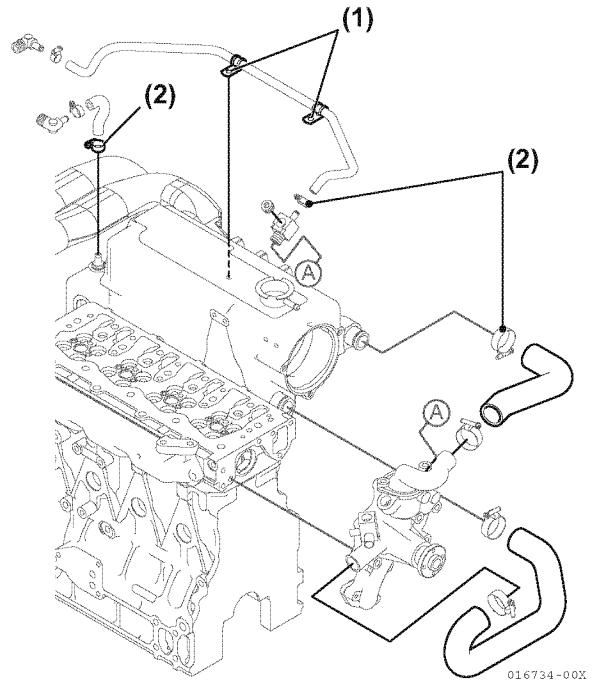

Figure 7-26
9. Install the heat exchanger assembly on the engine. Install and tighten bolts and clamps (**Figure 7-26, (1), (2)**).